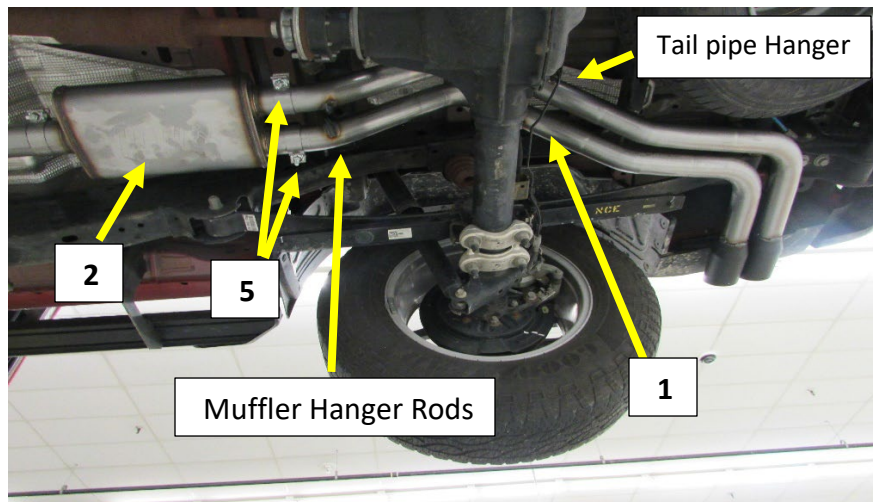

Figure.8
10. Install a 2.5" band clamp (5) onto each muffler outlet pipe. **Fig.8**
11. Install the tail pipe (1) over the axel and install the tail pipe into the Muffler outlets. **Fig.8**
12. Install the two hanger rods on the tail pipe into the muffler hanger isolators. **Fig.8**